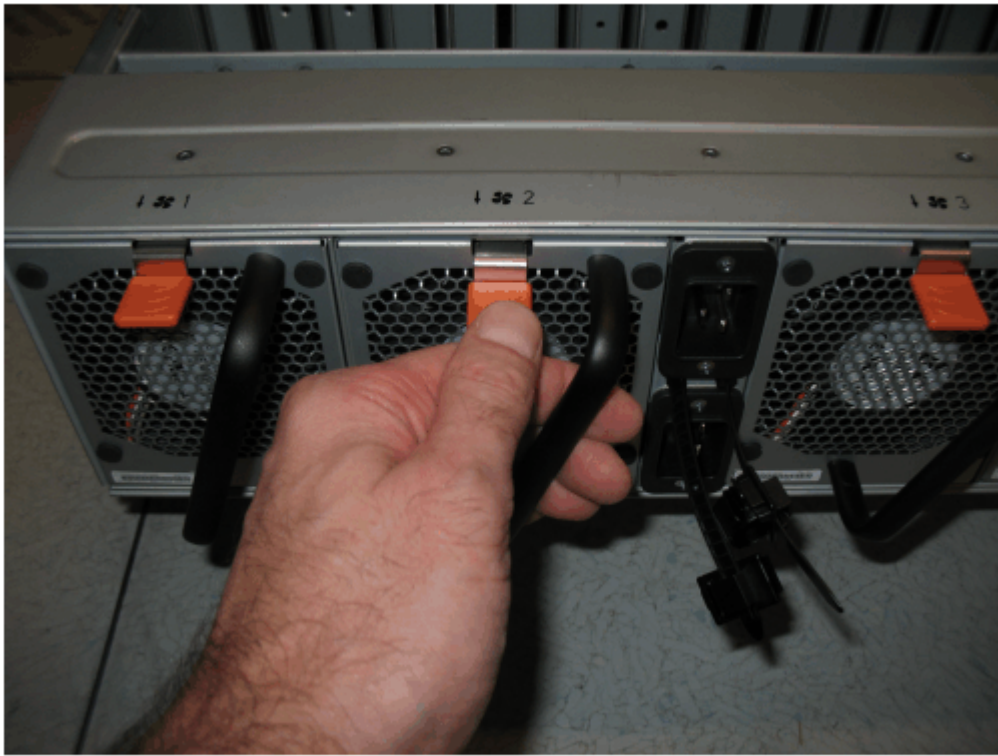

Figure 180. Fan module release tab
2. Press the release tab on the fan module, as Figure 180 on page 208 shows.